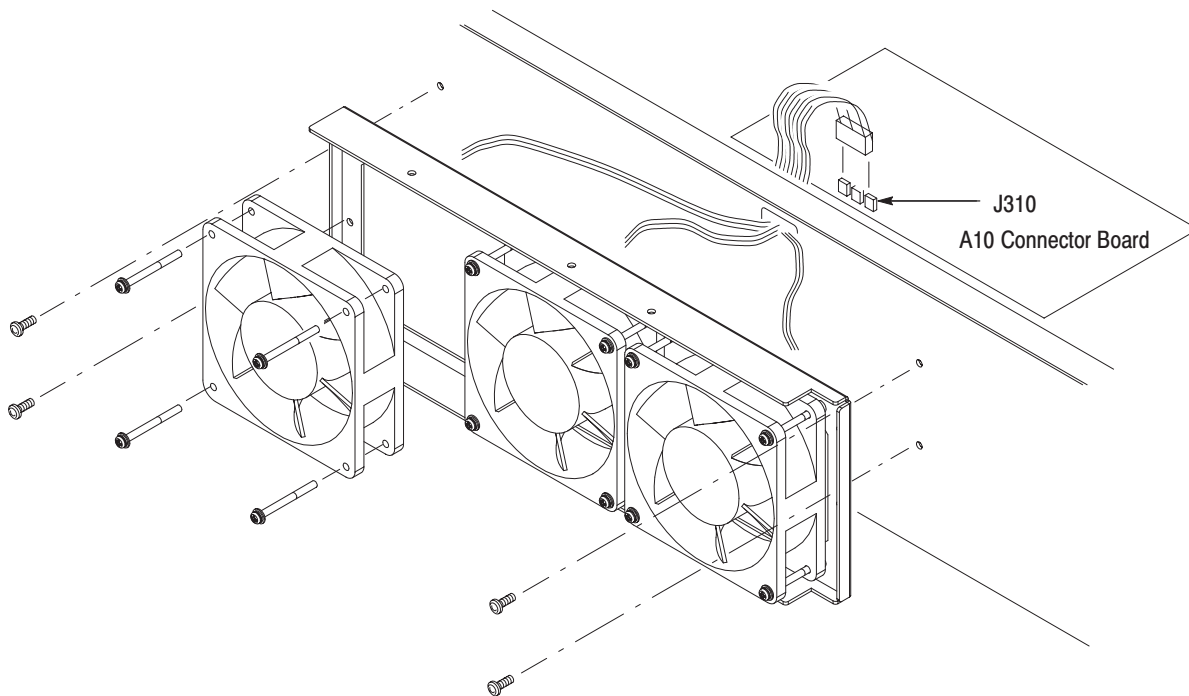

Figure 6-14: Fan removal
2. Orient the waveform generator so that its bottom is down on the work surface and its left side is facing you (see Figure 6-14).